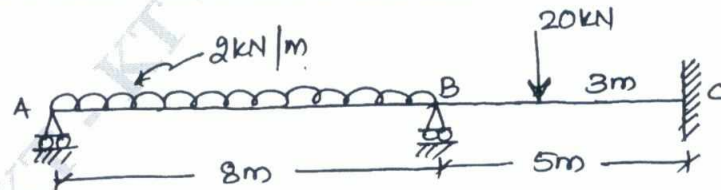

Fig.Q.7
- 7 Analyze the continuous beam shown in Fig.Q.7 by matrix flexibility method using system approach and draw BMD. Take moments as redundants. (16 Marks)